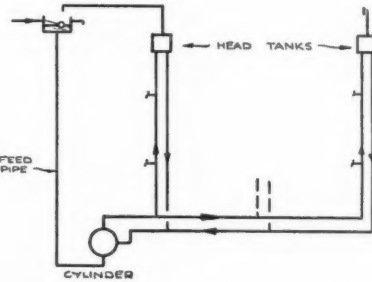

Figure 162. Hot water service system with separate head-tanks.
2. In order to assist the pressure on the topmost taps in buildings in which the supply tank is only a few feet above the highest draw-off points, it is possible to provide a circulating hot water head tank or cylinder of 30 or more gallons capacity at the top of each riser with a vent pipe carried above the supply tank level, as shown in Fig. 162. At periods of heavy draw-off on the lower floors of any particular riser when the supply to the top floor might tend to be reduced this tank will supply the riser downwards by drawing on its storage, so ensuring a good supply of all levels. As it is unlikely that the heavy draw-off continues for more than a minute or so the tank will not have emptied before the demand ceases, when the level in the system will balance up again by water flowing up the riser in the normal way.